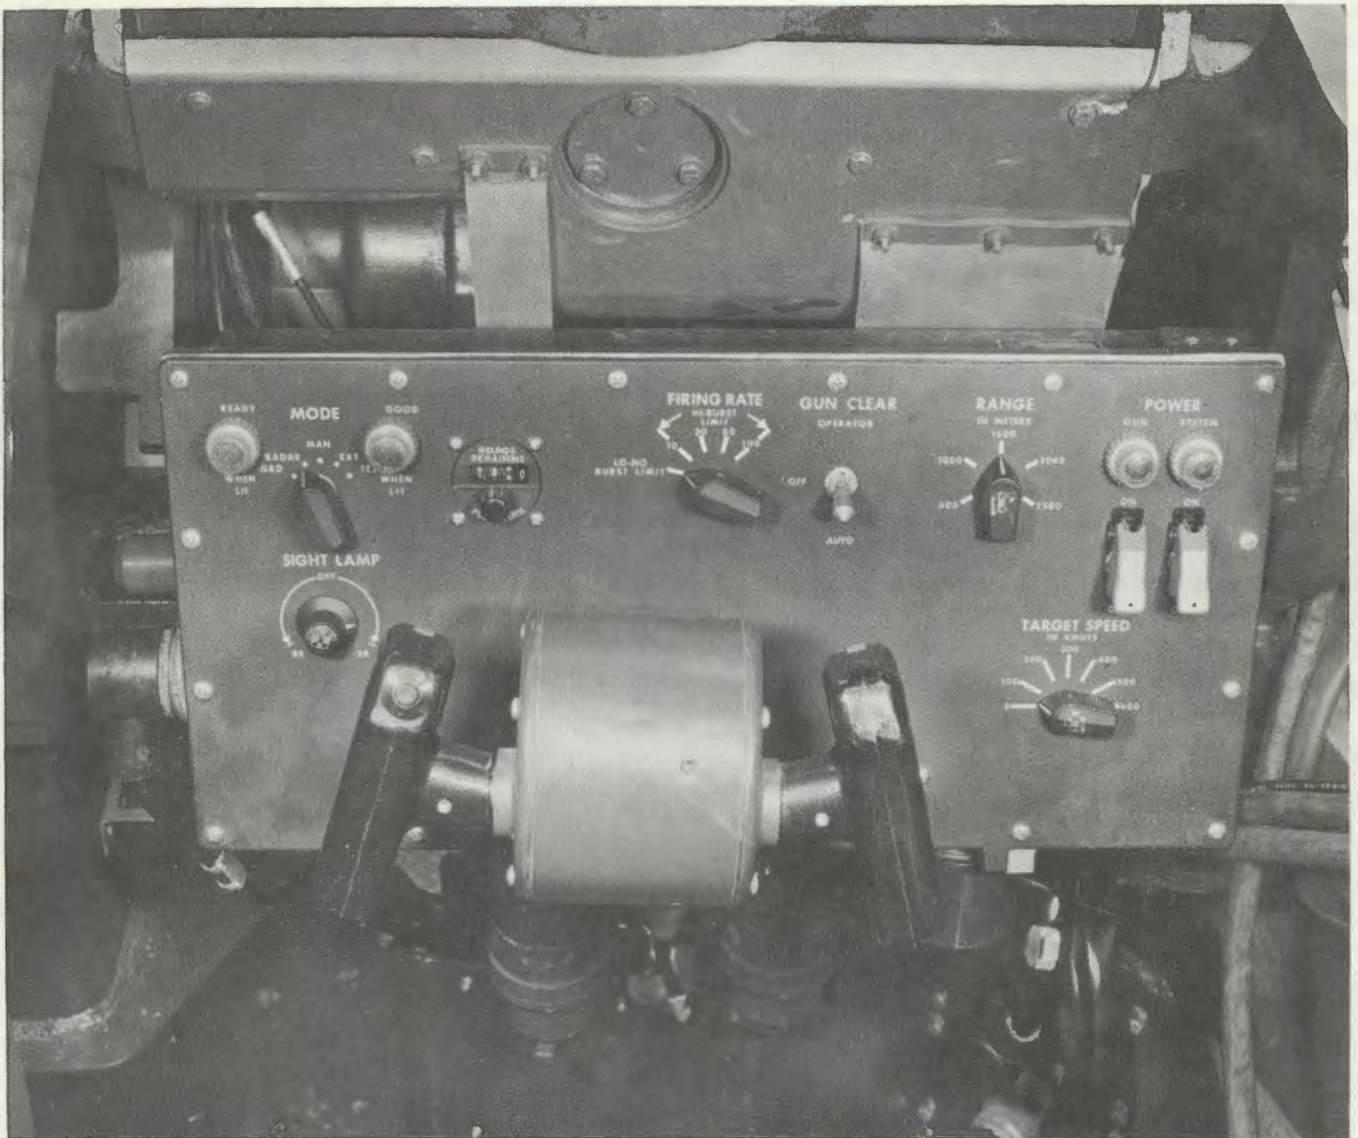

Figure 3-11. Control assembly.
a. Control Assembly (fig. 3-11).